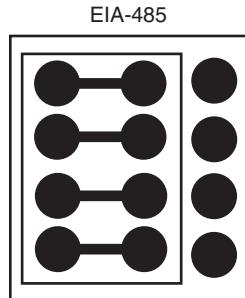

Fig. 13 — Communication Selection Jumper
- Verify that the Communication Selection jumper is set to EIA-485. See Fig. 13.